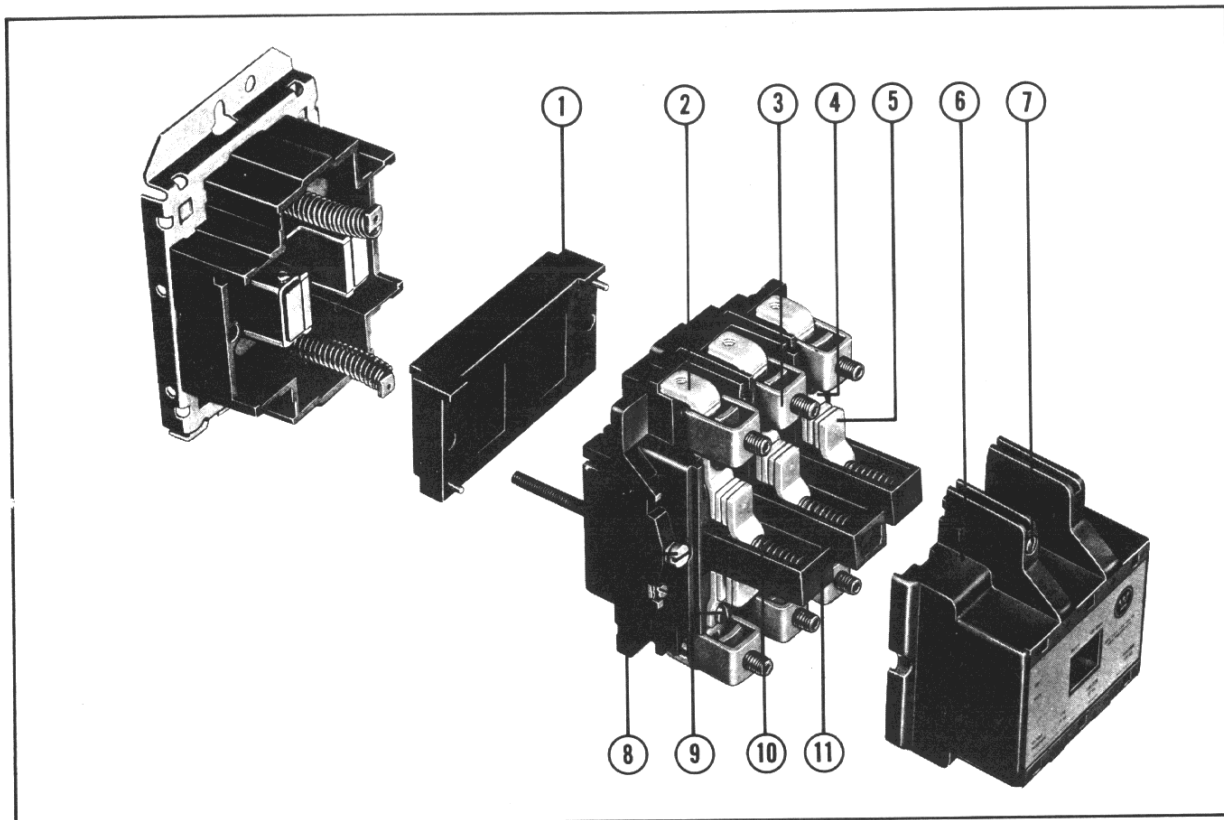

Figure 5 - Contactor Assembly
Loosen the assembly screws (8) Figure 5 located to the immediate left and right of the arc box (6).
Loosen the two arc box assembly screws (7) located immediately above and below the nameplate, see Figure 5, and remove arc box (6). Contacts are visible.